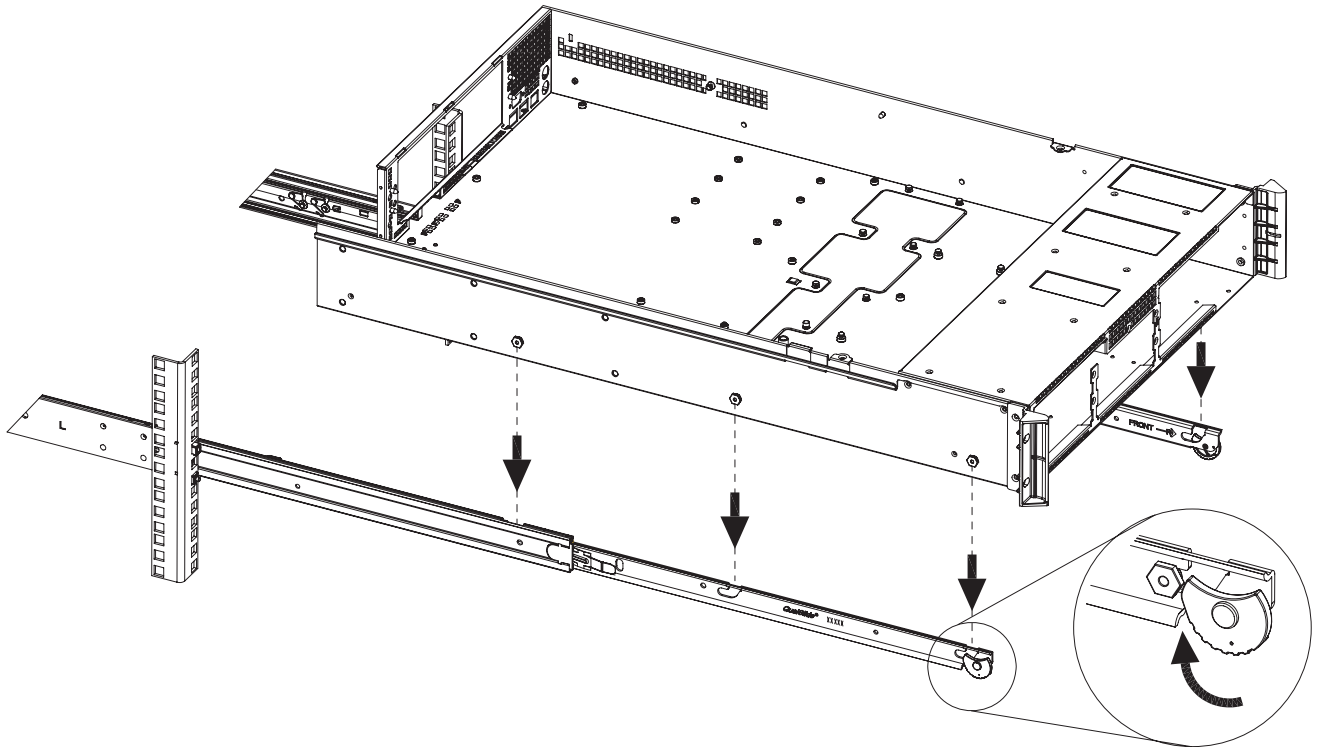

Figure 2-4 Attaching Chassis to Rail Slides
3. Attach the chassis to the rail slides as shown in the example in Figure 2-4.
- Ensure that the alignment spacers on the front flange of the mounting rail fit into the mounting holes in the cabinet (Figure 2-4 on page 2-6). Note that the front flange of each mounting rail has two alignment spacers. These alignment spacers are designed to fit into the mounting holes in the cabinet. The alignment spacers help position and hold the mounting rail.
- (1) Rack Rail Mounting Holes
- (2) Adjustment Screws for locking the Mounting Rail Length
- (3) Enclosure Mounting Rails
- (4) Clip for Securing the Rear of the Storage Enclosure